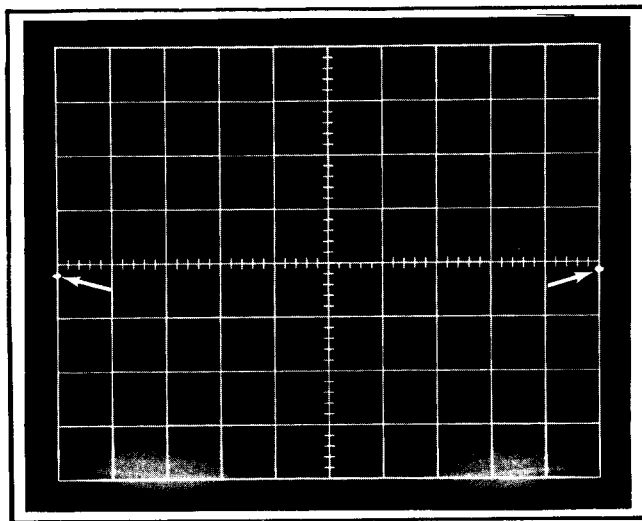

Fig. 6-1 Double exposure of Indicator Oscilloscope display of Manual Scan control range.
d. Adjust the HORIZ GAIN control so the spot moves exactly 10 div as the MANUAL SCAN control is turned from fully counterclockwise to the fully clockwise position; see Fig. 6-1.